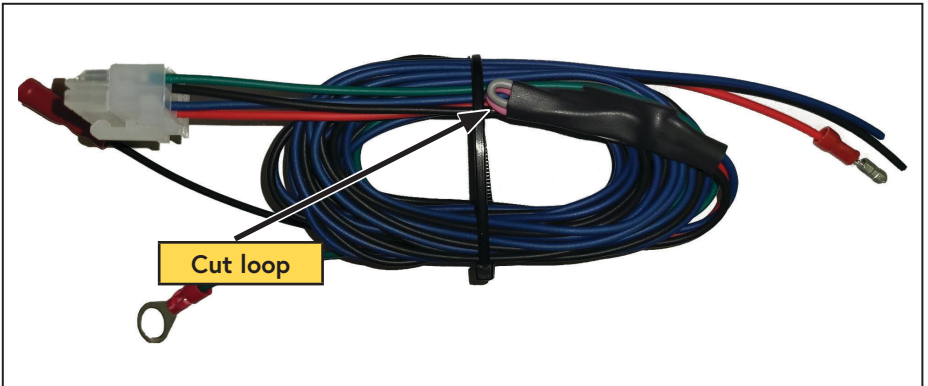

Figure 53 — Disable pull up harness
- Cut the loop of grey wire from the black module on DTC main harness the (Figure 53).